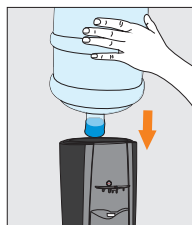

Figure 2
2. Place the water bottle on top of the cooler appropriately (Figure 2).